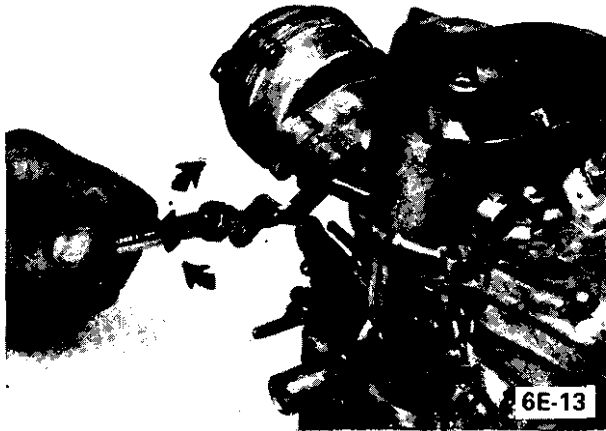

Figure 6E-13 Decreasing Fast Idle Speed
3. Start engine without moving the throttle. Adjust to 3200 to 3300 R.P.M. using 2 nuts on fast idle rod. See Figures 6E-13 and 6E-14.